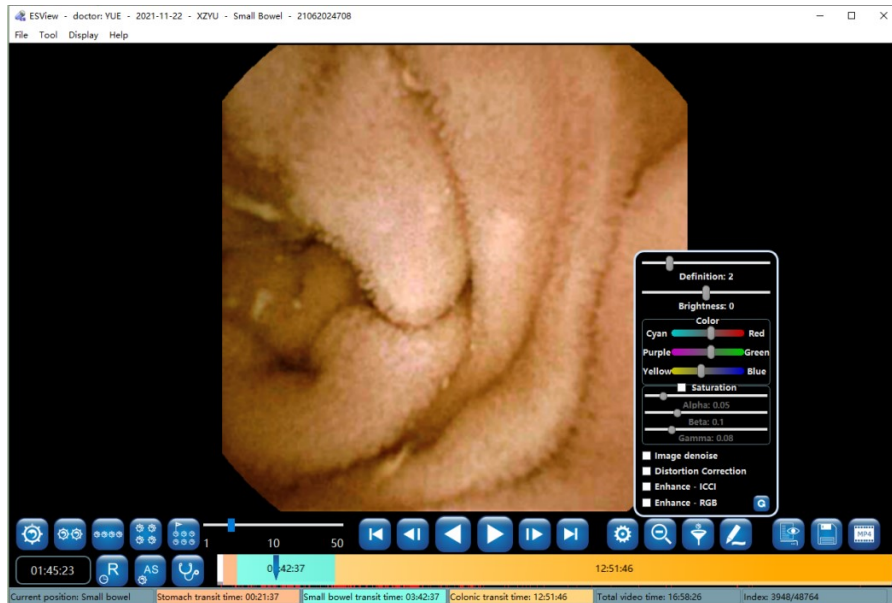

Figure 4-19: Image Processing Control Panel
4. Click  to access the image processing control panel, as shown in Figure 4-19. Drag the corresponding sliders to adjust definition, brightness, and color. Checking the “Saturation” box and then drag the sliders below to adjust saturation. The image can also be processed using the software’s built-in algorithms, including denoise, distortion correction, and image enhancement. It is important to note that if any one of the four options (Image denoise, Distortion correction, Enhance-ICCI, Enhance-RGB) at the bottom is selected, the adjustment of definition, brightness, and color will be disabled, and the image is automatically